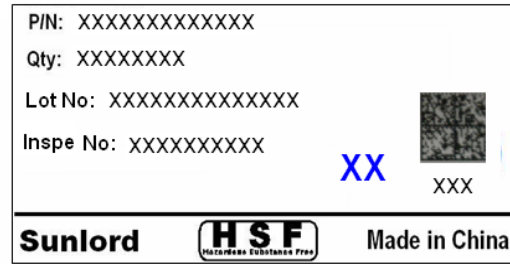

Fig.9.2.3-2B
2)Marking on outer case (see Fig.9.2.3-3~5):